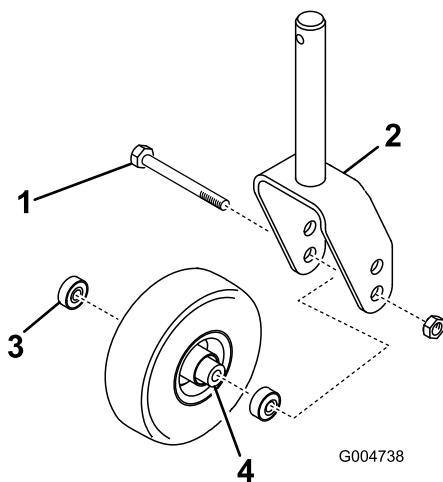

Figure 30
1. Remove the locknut from the bolt holding the castor wheel assembly between the castor fork (Figure 30). Grasp the castor wheel and slide the bolt out of the fork or pivot arm.
2. Remove the bearing from the wheel hub and allow the bearing spacer to fall out (Figure 30). Remove the bearing from the opposite side of the wheel hub.